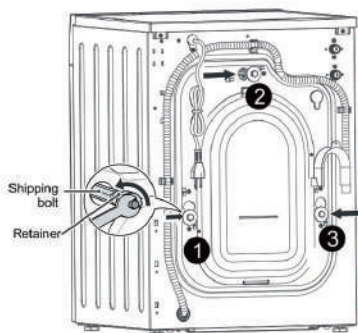
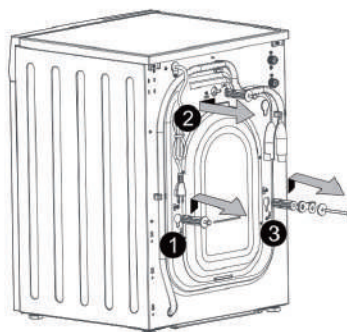
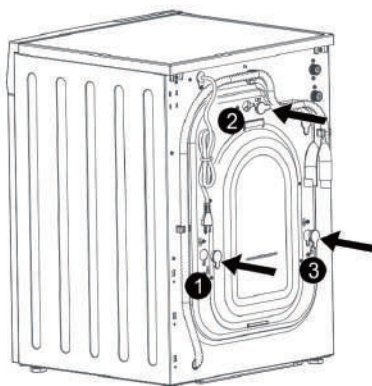

Fig. 1
Fig. 2
Fig. 4
**Important:** The inside of the Super Washer consists of a free floating drum that is affixed with shipping bolts at the back of the cabinet during transport (Fig.1). The power cord can be accessed by removing the shipping bolts (Fig. 2 & 3). Close the holes left open by the bolts with the caps provided (Fig. 4).